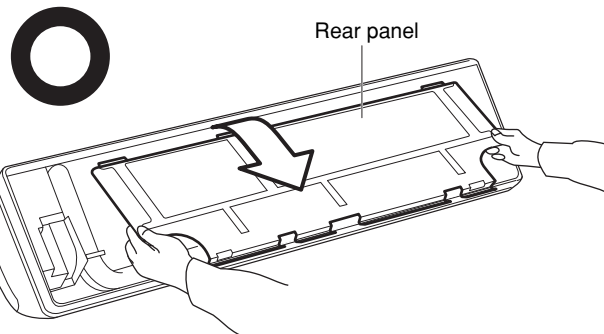

Fig. 7b
- (3) Remove the rear panel by grasping the sections shown in Fig. 7b and pulling it in the direction shown by the arrow.